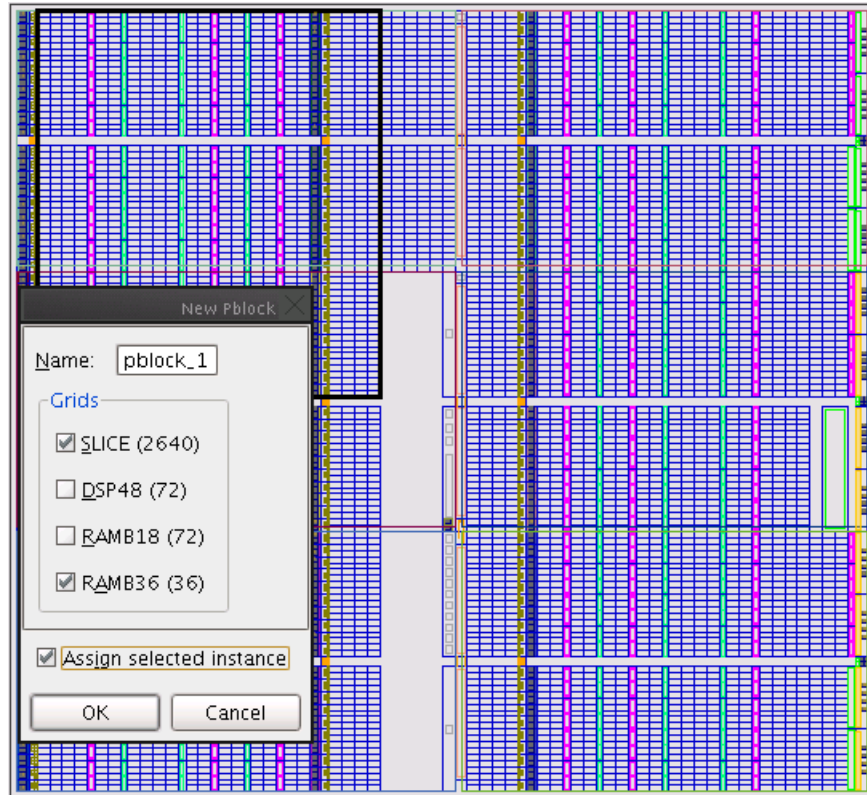

Figure 1-4: Pblock Rectangle for usbEngine1
3. Left click on the top-left corner of the device where the CLBs start, and without letting go of the left mouse button, drag to create a rectangle covering most of the top-left quadrant of the device (Figure 1-4).
4. In the **New Pblock** dialog box, verify that the SLICE and RAMB36 grids are selected, and deselect other resources that are not needed (Figure 1-4).
Verify that number of available RAMB36 (shown in parenthesis) is 36. If the rectangle does not fully cover the region shown in Figure 1-4, this number might be less, and the design will fail to place.